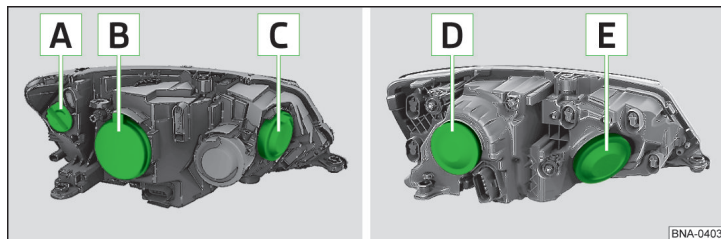

Fig. 106 Halogen headlights/halogen projector headlights
Bulb arrangement » fig. 106
- › Remove the protective cap **B** » fig. 106 on page 98.
- › Fit protective cap **B** » fig. 106 on page 98 Insert.
- › Remove the protective cap **C** » fig. 106 on page 98.
- › Fit protective cap **C** » fig. 106 on page 98.
- Remove the protective cap **B** » fig. 106 on page 98.
- Fit protective cap **B** » fig. 106 on page 98 Insert.
- Remove the protective cap **D** » fig. 106 on page 98.
- Fit protective cap **D** » fig. 106 on page 98.
- › Remove the protective cap **E** » fig. 106 on page 98.
- › Fit protective cap **E** » fig. 106 on page 98.